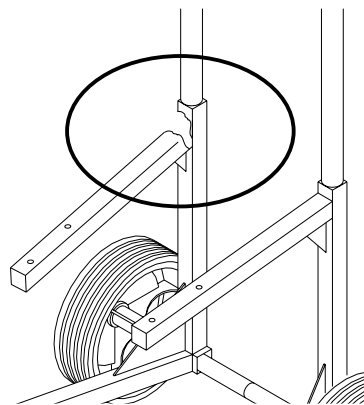

Fig.13
- 2 Check to make sure that the goods have not been damaged during transport and the pump has **NEVER** been used with elements damaged even partially (Fig.13).